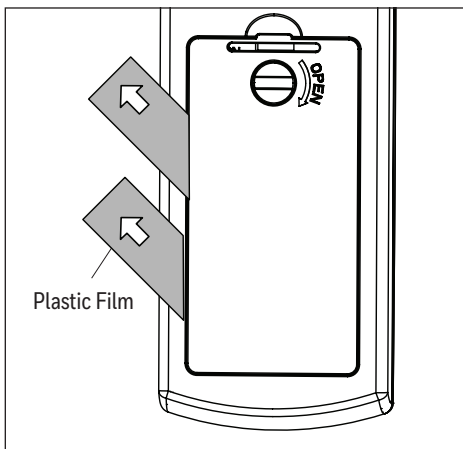

Figure 5.7
7. Batteries were preinstalled in the battery compartment of the remote in remote pack. Pull the plastic film in the direction of the arrow to remove which will activate the batteries (Figure 5.7).